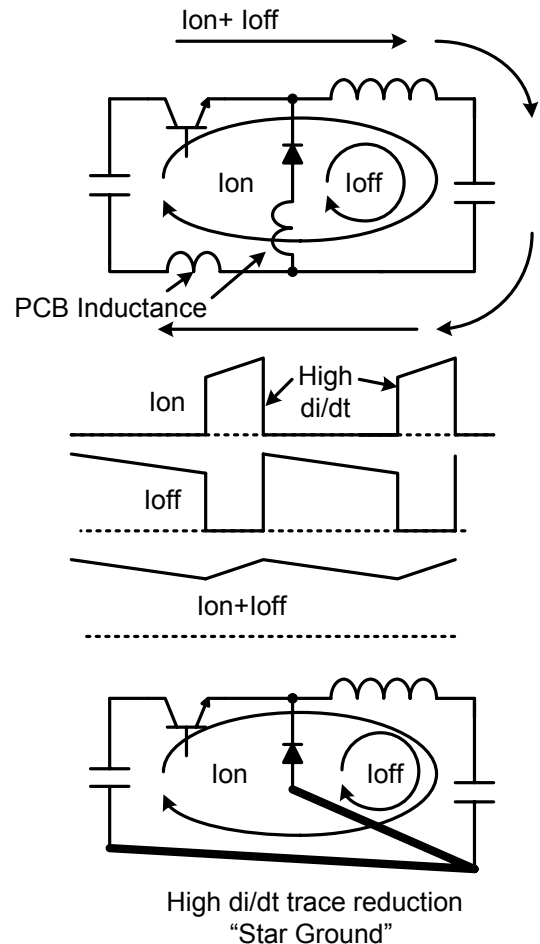

Figure 1. Step Down Converter Layout
5. Ground. The most quiet ground or return potential available is the output capacitor return. The inductor current flows through the output capacitor during both the on time and off time, hence it never sees a high di/dt . The only di/dt seen by the output capacitor is the inductor ripple current which is much less than the di/dt of an edge to a square wave current pulse. This is the best place to make a solid connection to the IC ground and input capacitor. This node is used as the star ground shown in Figure 1. This method of grounding helps to reduce high di/dt traces, and the detrimental effect associated with them, in a step-down converter. The inductance of these traces should always be minimized by using wide traces, ground planes, and proper component placement.